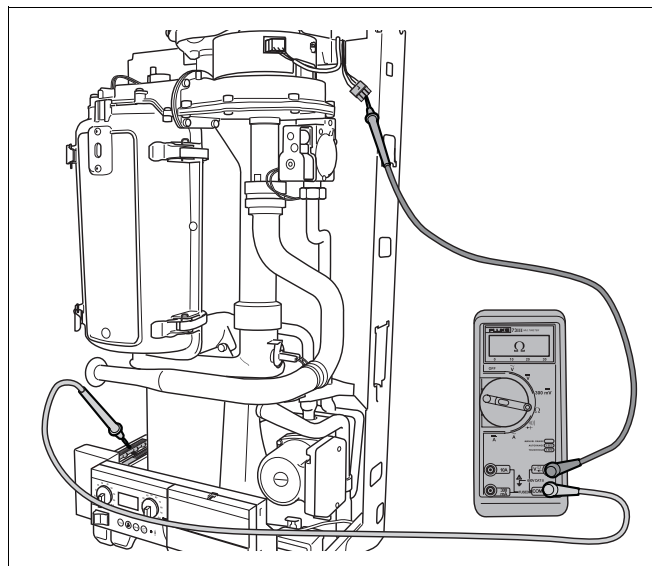

fig. 64 Measure resistance of tachoplug
- If necessary measure the resistance over the tachoplug (see fig. 64) in the same manner.